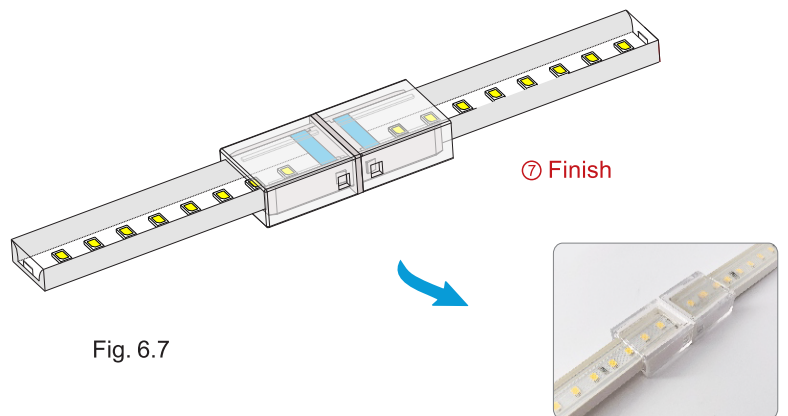

Fig. 6.7
- Fig. 6.7 — The complete assembly